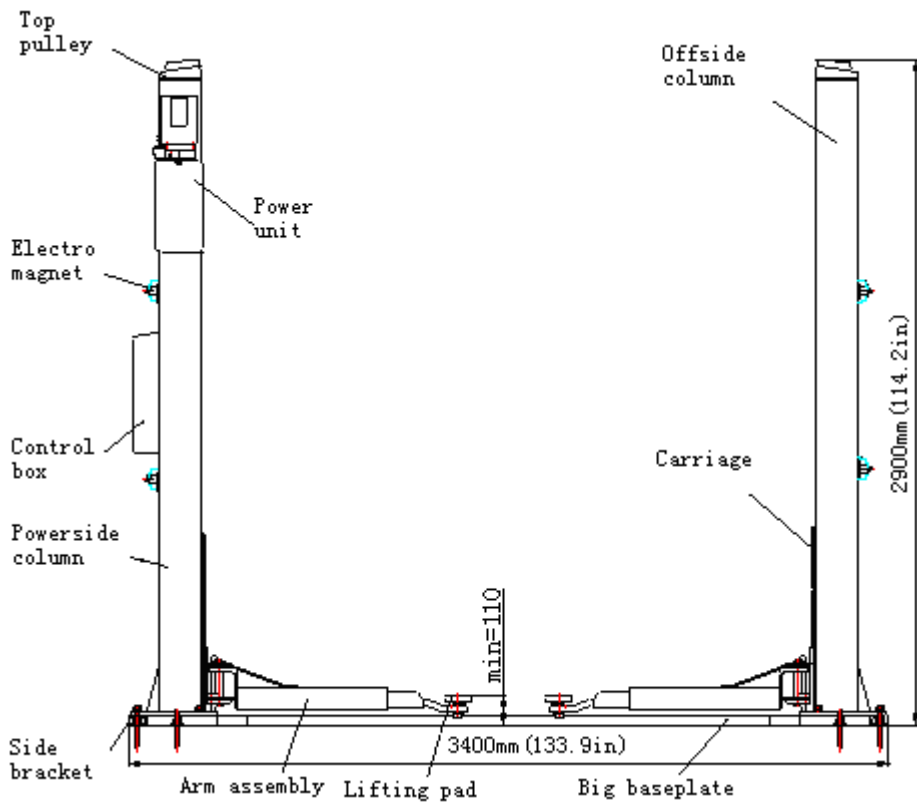
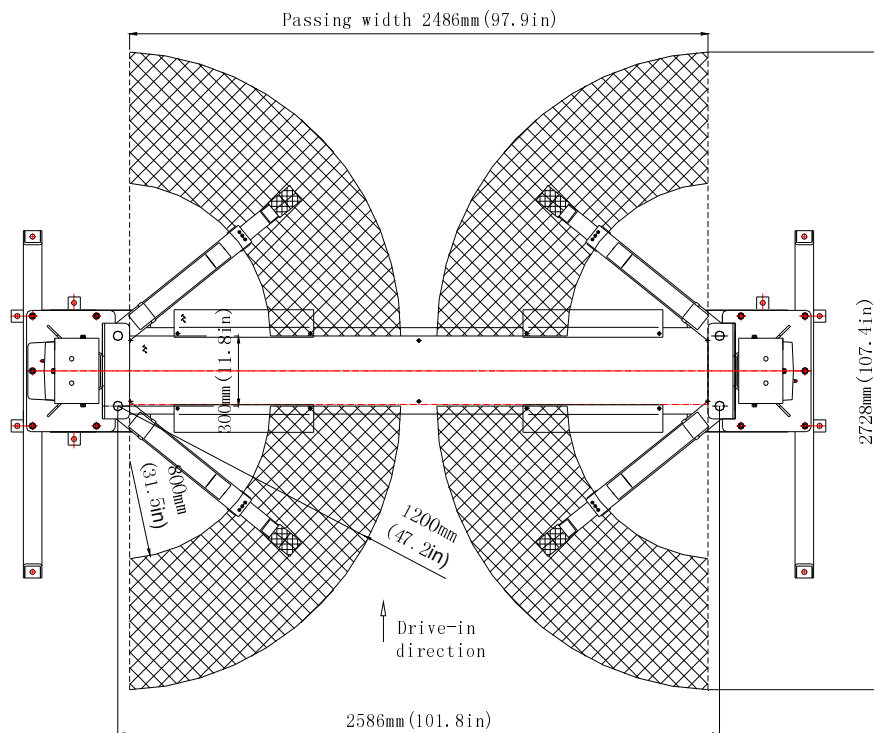

Fig 1b
Fig 2b
TLT235SBA(E) floor-plate 2-post lift	3.5T Electronic symmetric wide floor-plate 2-post lift(Fig1b、 Fig2b)